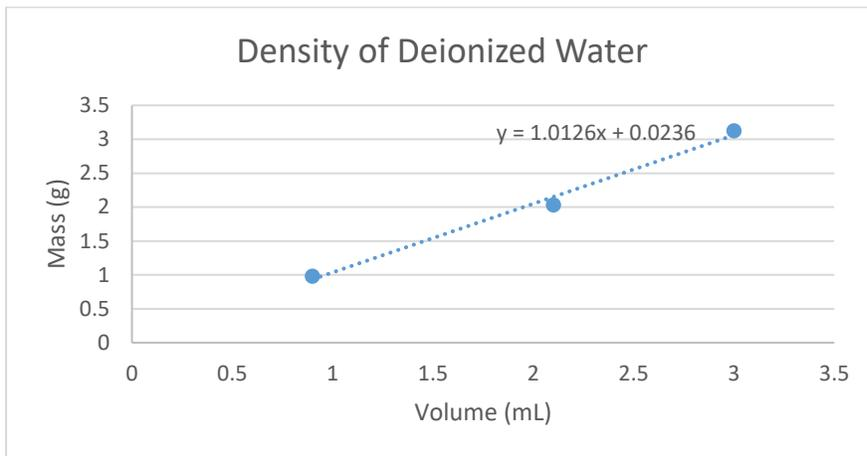

Fig. 7: Graph of Density
9. Make sure that the equation is readable on the chart. Delete the legend on the right hand side. Print the chart as full page (Fig. 7).